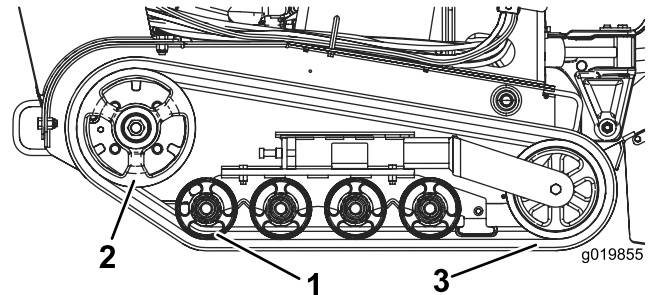

Figure 44
Important: Ensure that you fully clean the wheels and the drive sprocket (Figure 44).
8. Beginning at the drive sprocket, coil the new track around the sprocket, ensuring that the lugs on the inside of the track fit between the spacers on the sprocket (Figure 44).
9. Push the track under and between the rear and center road wheels (Figure 44).